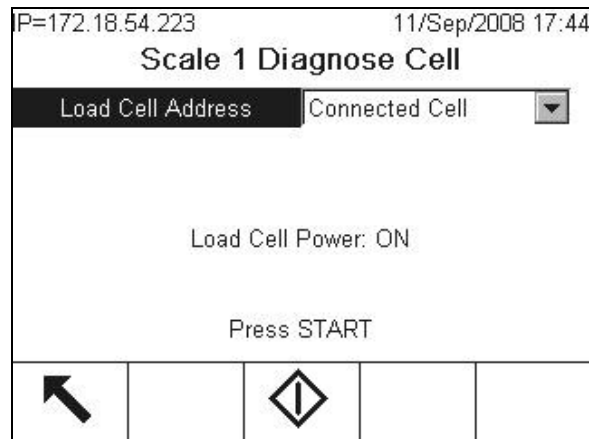

Figure 4-22: Diagnose Cell Screen
- **Diagnose Cell**—Used for POWERCELL scales only. The purpose of the Diagnose Cell screens is to allow the technician to verify a load cell's node address and raw counts. If the cell that is being diagnosed has a known address, select that address from the Load Cell Address selection box. If the cell address is unknown, then select Connected Cell. If the cell is faulty or it has an invalid address, the terminal will fail to communicate with the cell. If the cell responds correctly, the node address and the cell counts will be displayed on the screen (Figure 4-22).